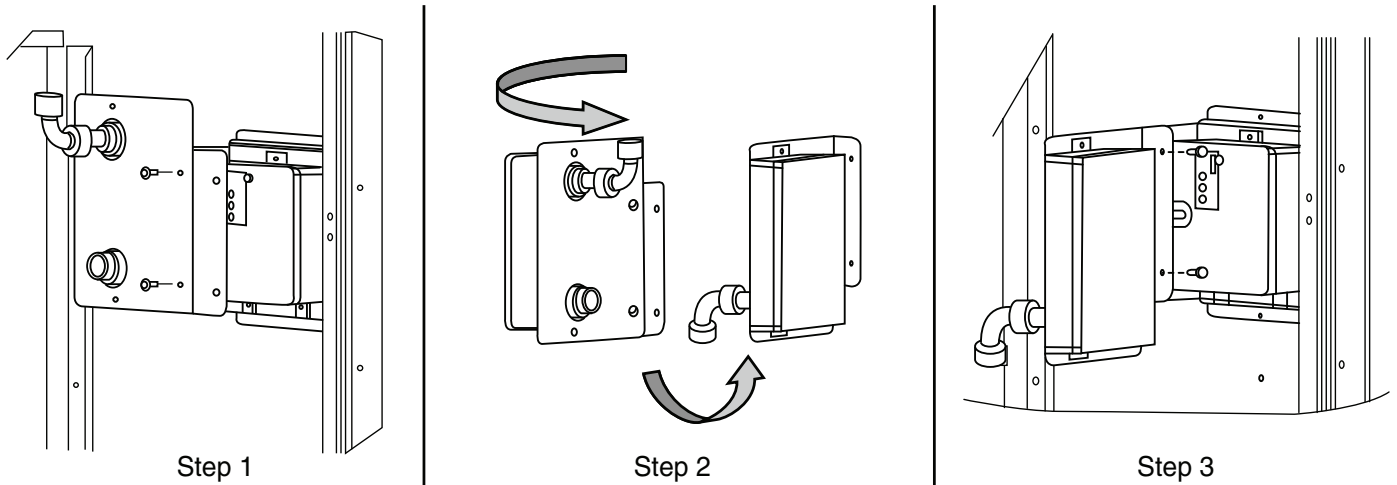

Fig. 52 — Completing Installation of Return Air Smoke Sensor
1. Unscrew the 2 screws holding the return air smoke detector assembly. See Fig. 52, Step 1. Save the screws.
2. Turn the assembly 90 degrees and then rotate end to end. Make sure that the elbow fitting is pointing down. See Fig. 52, Step 2.
3. Screw the sensor and detector plate into its operating position using screws from Step 1. See Fig. 52, Step 3.